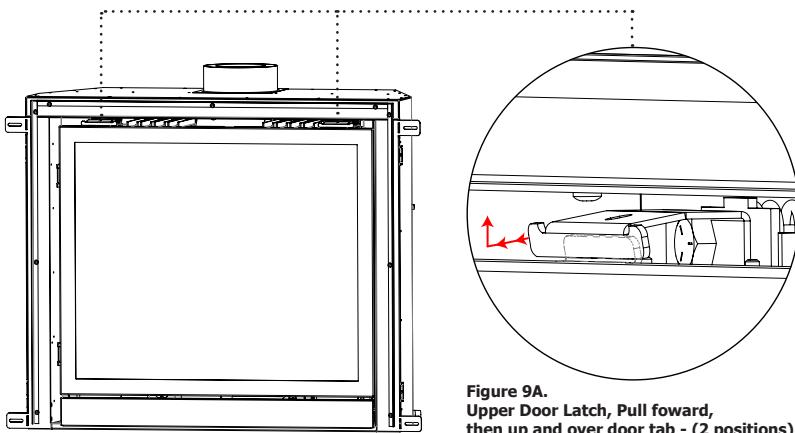

Figure 9A.
Step 2. To remove the glass door use your two index fingers to pull the spring latches up over the two door tabs. Fig.9A